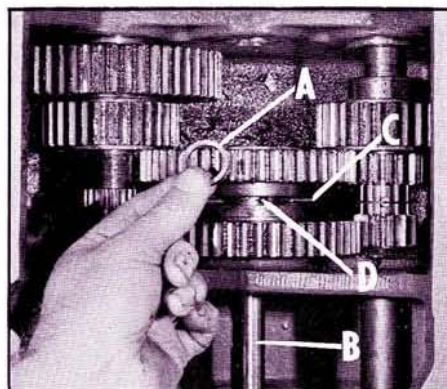

Fig. 25
7. Place spacer (A) Fig. 25, in position on top of shaft (B). Note that the two rollpins (C) and three balls (D) are still in place as shown.